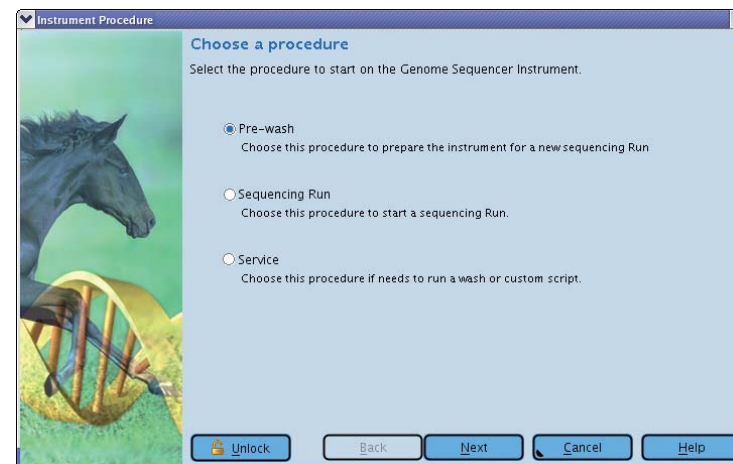

Figure 7: The Run Wizard's first window (Choose a procedure), with the Pre-wash option selected
- This opens the Run Wizard's first window: Choose a procedure (Figure 7).